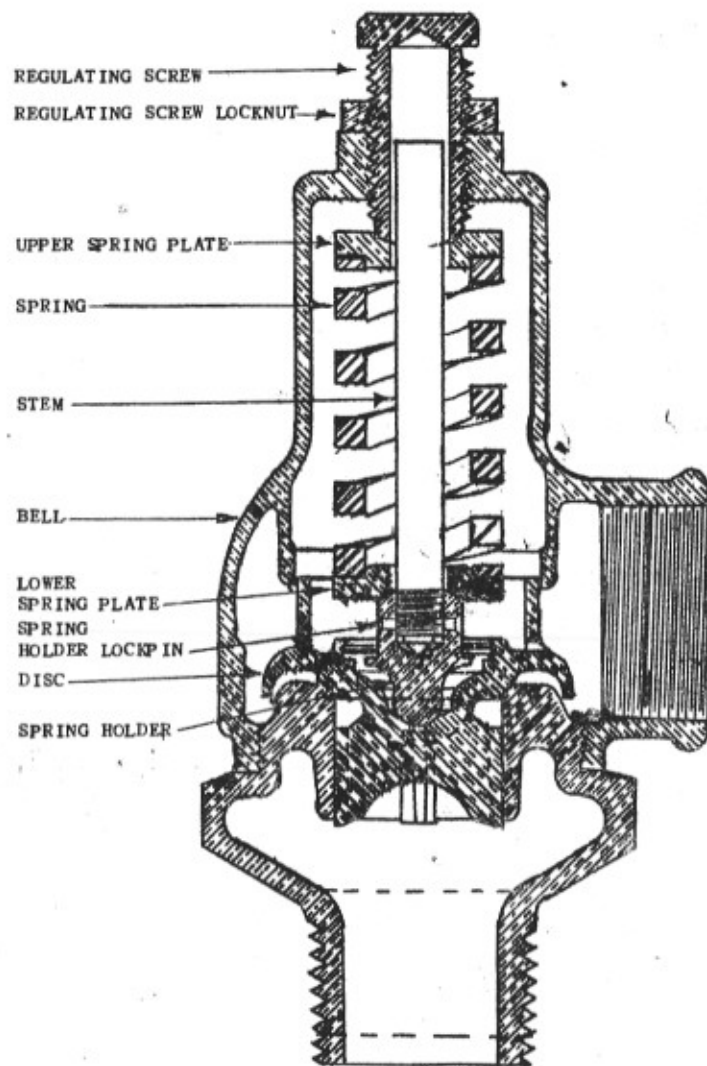

Figure 173
**RELIEF VALVE LUNKENHEIMER NO. 986:** Refer to Figure 173. This valve functions to prevent over-pressures in the 190 degree surge tank and is set to blow off at 60 P.S.I.